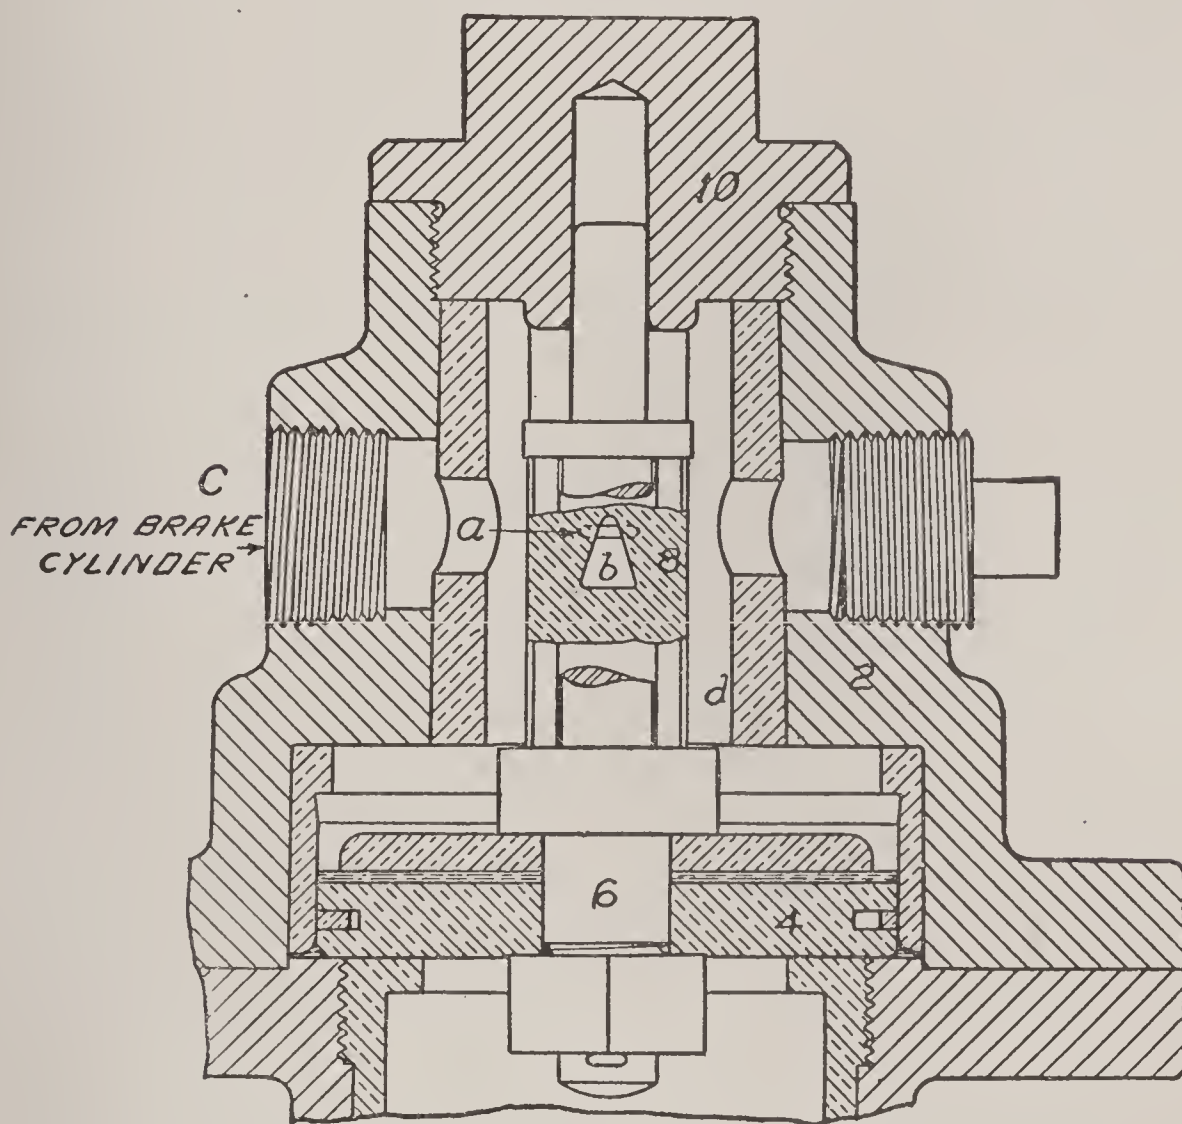

Fig. 27.
**Emergency Application.** The positions assumed by piston 4 and slide-valve 8 in an emergency application of the brakes are shown in Fig. 27. The violent admission of air into the brake cylinder suddenly increases the pressure on piston 4, forcing it to the lower end of its stroke, in which position the apex of triangular port *b* in the slide-valve is brought into register with port *a* and a comparatively slow discharge of brake cylinder pressure takes place while the train is at its highest speed; but the area of the opening of port *b* gradually increases as the decreasing pressure above piston 4 permits spring 11 to slowly raise the piston and slide-valve. The rate of discharge thus increases as the speed of the train decreases. When the brake cylinder pressure has become reduced to sixty pounds, port *a* is closed, and the remainder of the brake cylinder pressure is retained until it is released in the usual way through the triple.